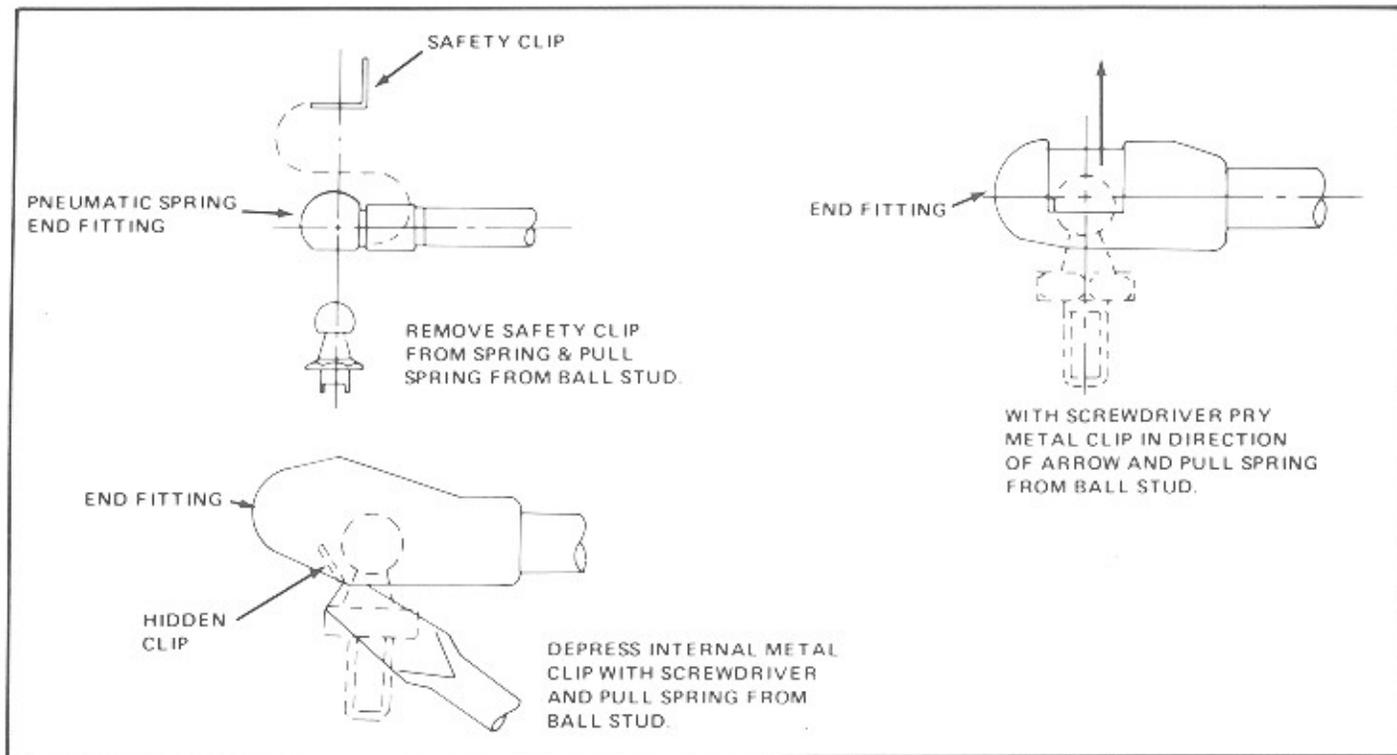

Figure 3-25. Door Spring Fittings
2. While another person keeps the door open, find the appropriate style spring end fitting in figure 3-25.
3. Follow the example in figure 3-25.